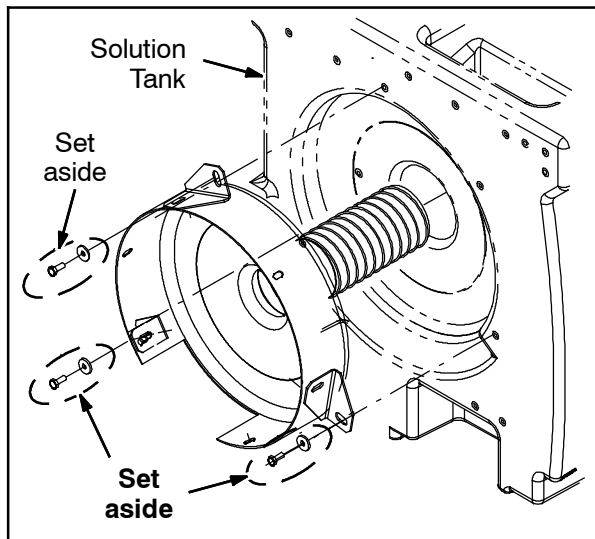

FIG. 11
9. Remove the hardware holding the scrub vacuum fan to the solution tank. Set the hardware aside. (Fig. 11)